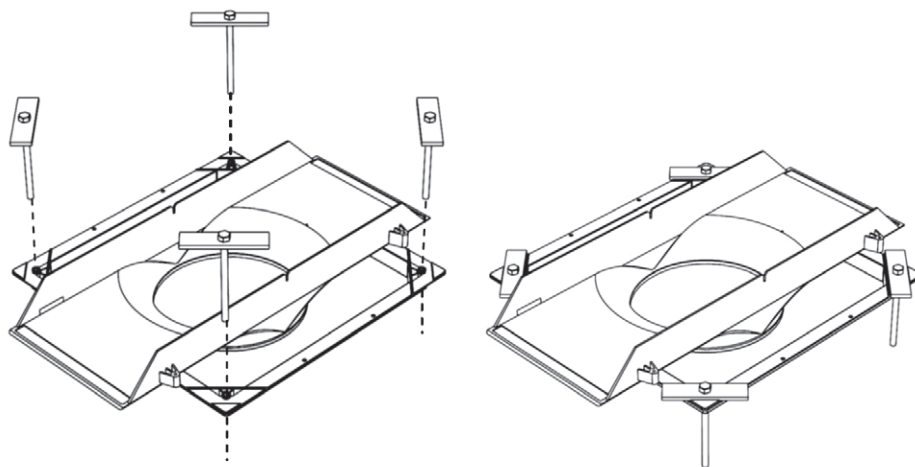

Fig 9: Insert the four M8 bolts and hold down bars into the corners of the brace.
- Thread a hold down bar onto the M8 bolt and push the bolt almost all the way into the hole in each corner of the brace (Fig 9).